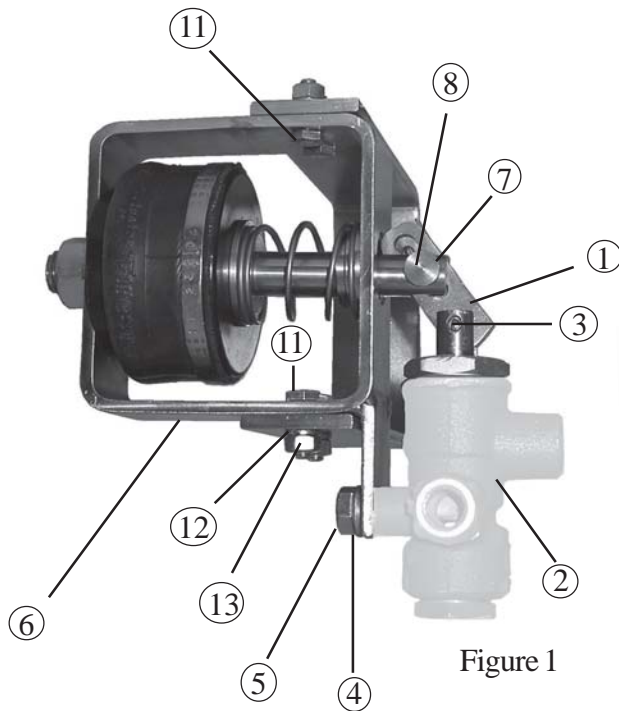

Figure 1
Install ME710 linkage (1) onto RegO® A7853A control valve (2) with rounded corner facing the valve pin. Attach linkage (1) to the control valve (2) using new roll pin (3) included in the installation kit. Assemble 3/8" lock washers (4) onto 3/8"-16 bolts (5) provided and install RegO® A7853A control valve (2) onto actuator bracket (6) as shown in Figure 1. Tighten the two bolts (5) to 25 - 30 inch pounds torque. Position linkage (1) into actuator piston slot (7). Install linkage retaining pin (8) through actuator piston (7) and valve linkage (1). Install the cotter pin (9) through the linkage retaining pin (8) to retain in place. Determine desired mounting position for the actuator assembly. The mounting bracket (10) is universal for right or left hand installation. Attach mounting bracket (10) to actuator body (6) in desired position using 1/4"-20 bolts (11), 1/4" lock washers (12) and 1/4"-20 nuts (13) provided in installation kit.
Install mounting bracket bolts (11) with the head on the inside of the main actuator bracket (6) as shown in Figure 1 to ensure proper clearance for the actuator. Install 1/4" lock washers (12) on the outside of the mounting bracket/actuator assembly prior to installing the 1/4"-20 nuts (13). Tighten the four connecting points to 25 - 30 inch pounds torque. This completes the actuator assembly.